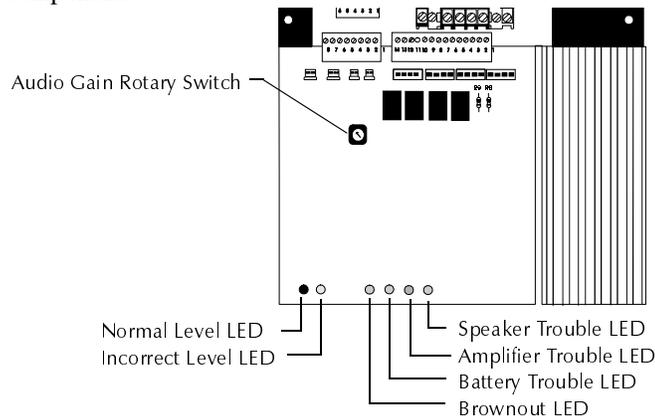
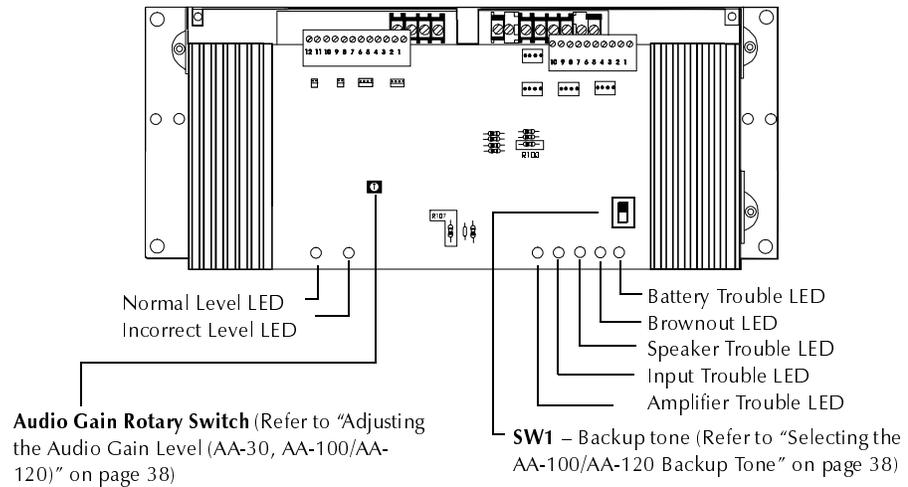

Figure 36 AA-30 Circuit Board
Figure 37 AA-100/AA-120 Circuit Board
Figure 36 shows the layout of the AA-30 circuit board and identifies AA-30 components:
Figure 37 shows the AA-100/AA-120 circuit board and identifies key components:
An audio amplifier contains a multi-position rotary switch that lets you adjust the gain of the audio output signal. This adjustment compensates for audio line losses. After correct adjustment, an audio amplifier can produce its maximum rated output power of 25 Vrms (AA-30, AA-120) or 70.7 Vrms (AA-100). Refer to Figure 37 on page 37 for the location of the Audio Gain Rotary Switch.
(See Figure 37 on page 37 for location of switch.)
1. Locate the Audio Gain Rotary Switch on the AA-30 (Figure 36) or the AA-100/AA-120 (Figure 37).
1. Locate SW1 in the lower right-hand corner of the AA-100/AA-120 circuit board (See Figure 37 on page 37).